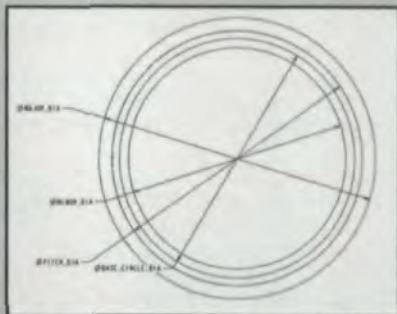

Fig. 1—Gear ring datum curves. Courtesy of Meritor Automotive.
1. Begin by creating datum curves that will define the attributes of the gear. Use Feature, Create, Datum, Curve. Create the four following circles as shown in Fig. 1.
2. Select Modify, Dim Cosmetics, Symbol to name these circles as shown in Fig. 1.